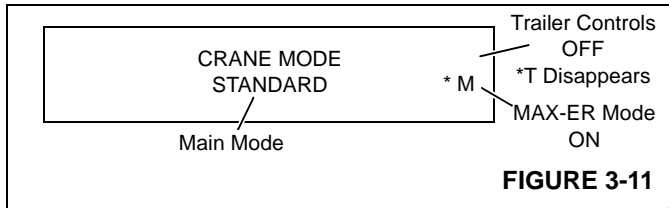

FIGURE 3-11
8. If MAX-ER counterweight trailer is reattached, turn key clockwise (select) until TRAILER CTL OFF appears on display as shown in Figure 3-11.